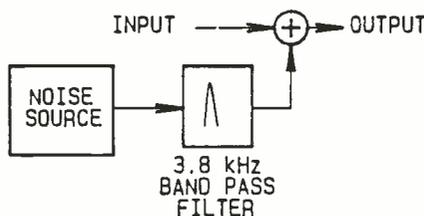

**Figure 3.** Amplitude response for the three band-pass filters in the decoder vs. the effective input signal frequency.
3. The level of the audio signal in the notch frequency band is compared to the level of the signal in the sidebands, at 3,300Hz and 4,300Hz (Figure 3). For the decoder to detect and indicate the encoded signal, the notch band level must be lower than the level of the lower sideband.